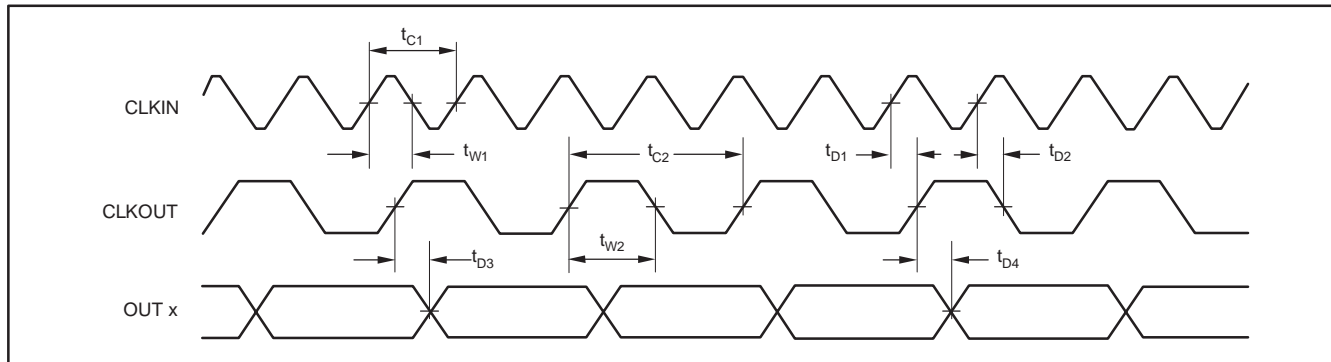

Figure 1. ADS1205 Timing Diagram
(1) All input signals are specified with $t_R = t_F = 5\text{ns}$ (10% to 90% of BV_{DD}) and timed from a voltage level of $(V_{\text{IL}} + V_{\text{IH}})/2$. See Figure 1.
(2) With reduced accuracy, the minimum clock period can go down to 30ns.